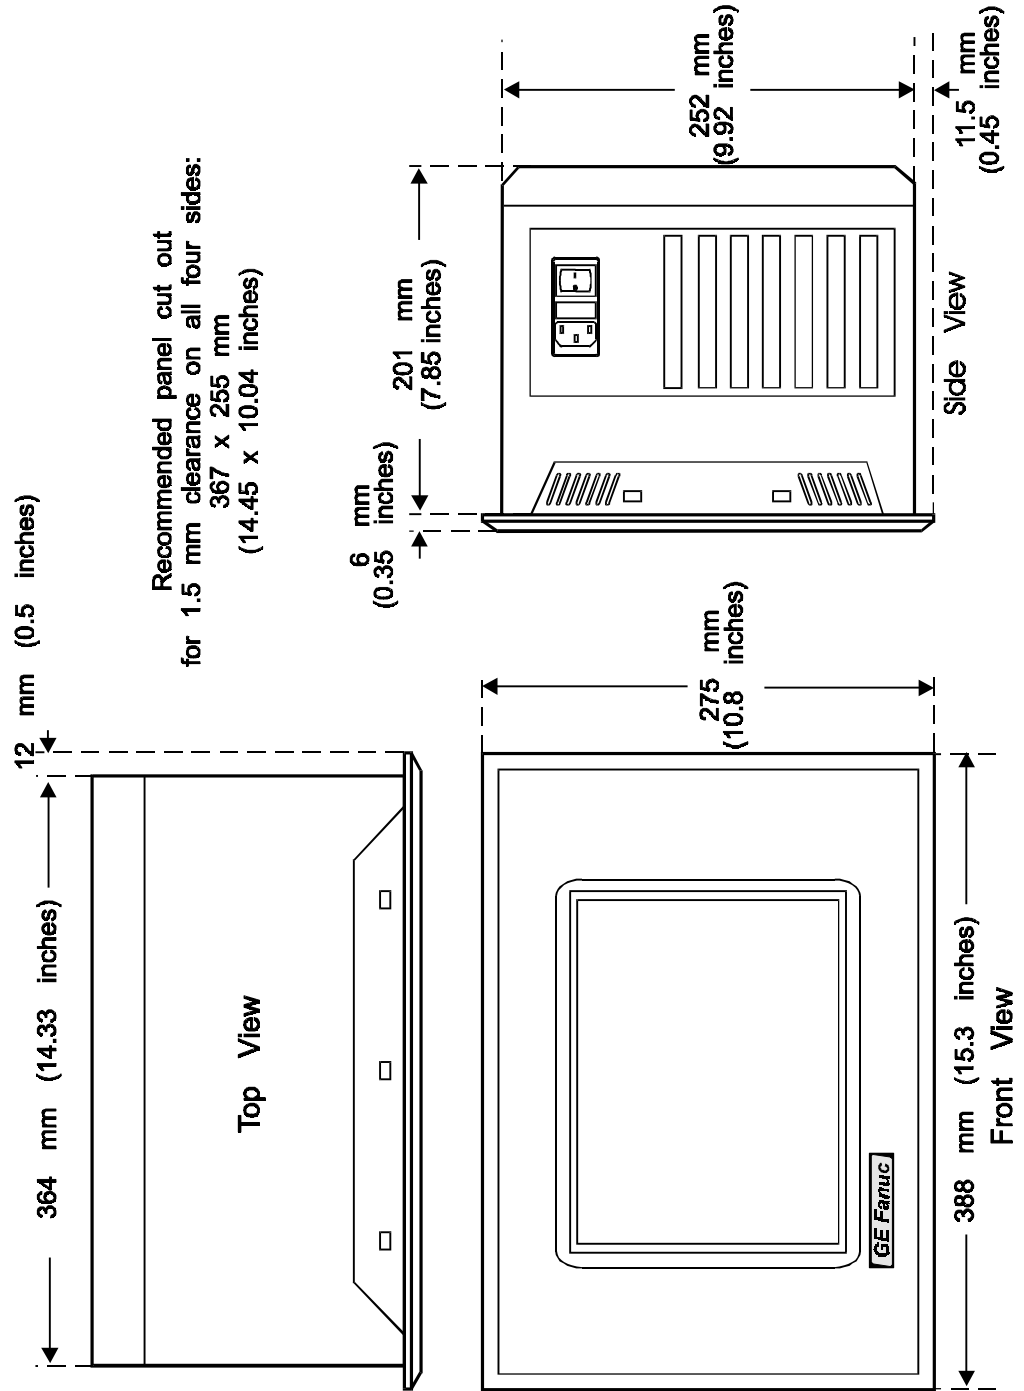

Figure 1. Touch Display Unit Dimensions
When selecting a location for the Touch Display unit, make sure that there will be enough space for access to the connectors, located on the right side of the unit. For unit dimensions, refer to Figure 1. The mounting location for the Touch Display unit should meet the following requirements:
- Allowance should be made for air flow. A fan draws in air through a filter mounted on the back of the unit. Warm air is expelled through slots in the connector panel (refer to Figure 1).